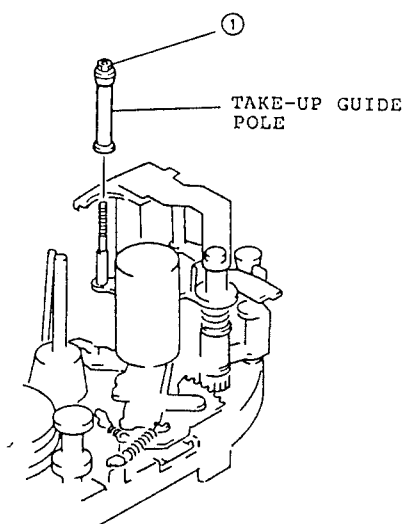

Fig. 2-68
1. Loosen the nut at the top of the take-up guide pole and pull out the pole from the chassis. (See Fig. 2-68)